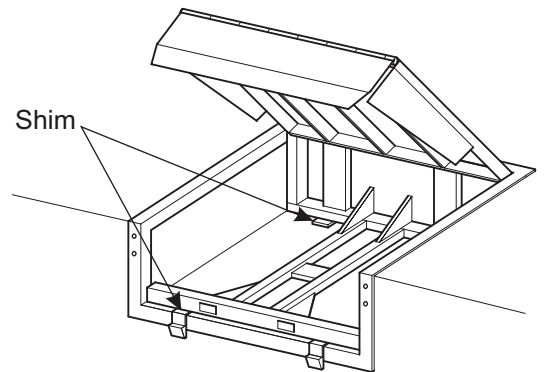

FIGURE 6
- The back of the safety stops should be in line with the front of the dock leveller frame. Shim between safety stops and frame if necessary. Shims at the front must not extend beyond the dock leveller frame. (See Figure 6)
- Shim under cross member at the rear of the cylinder until the cross member is supported. (See Figure 6 and 7)